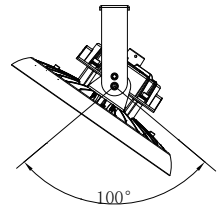

Figure 7
4. After installation, connect the wire of the fixture to the mains according to local wiring rules, ensure the connection is stable and protected on the connection. By adjusting the brackets screws, users can adjust 50° to the left or right vertically. (figure 7)